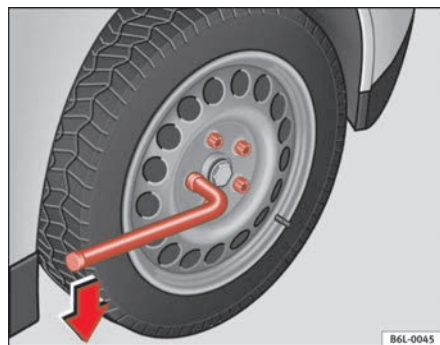

Fig. 141 Changing the wheel: loosen the wheel bolts
- Grasp the box spanner by the end turn it about one full turn to the **left** ⇒ fig. 141.